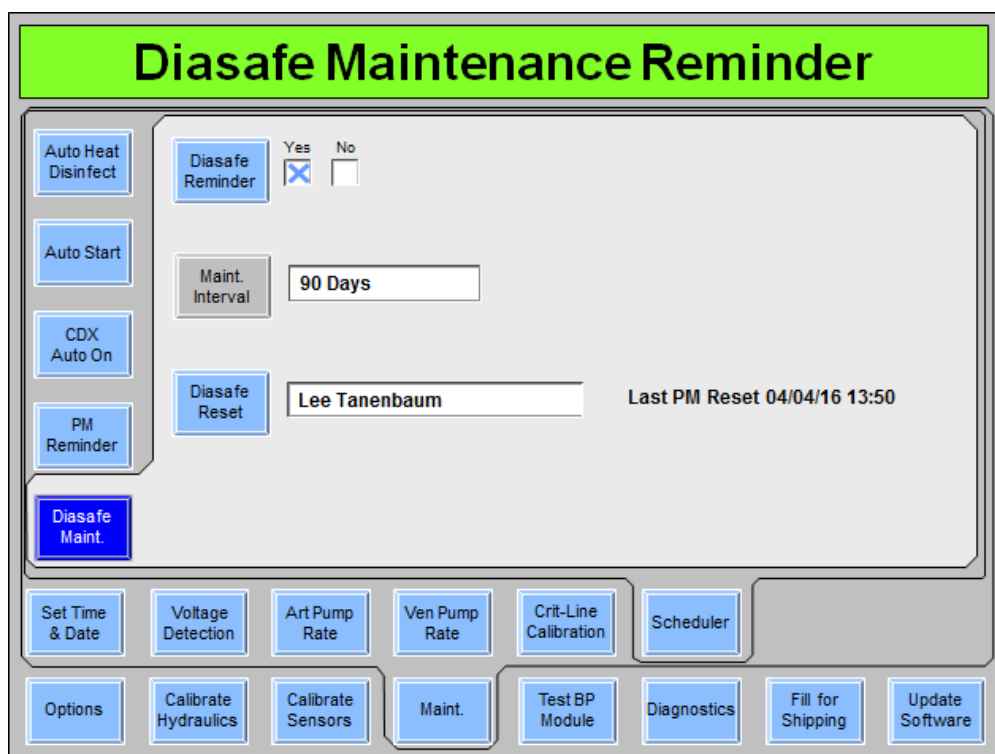

Figure 131 – Scheduler Diasafe Maint. Screen (showing functional software version 2.72 or later)
3. Select the **Diasafe Reset** button and, using the keyboard, enter the technician's name setting the PM reminder then press the **CONFIRM** key. This will reset the countdown clock from the last DIASAFE[®] *plus*_{US} filter replacement date and save the technician's name and date the 90 day timer was reset (see Figure 131). This overwrites the name and date of the technician who performed the previous PM reset.